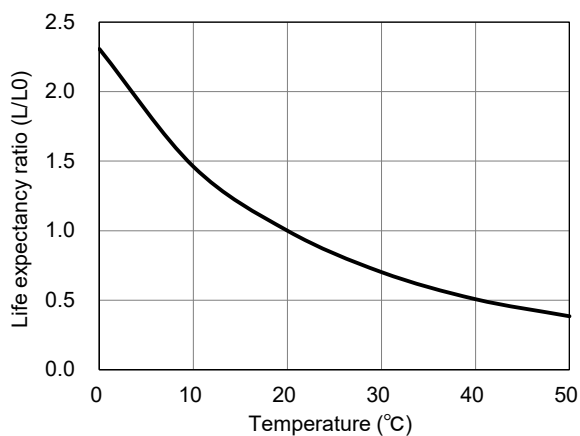

Fig. 7b - Relationship of life expectancy vs. temperature (L₀ = life at 20°C)
Figure 7b shows the relationship between life expectancy and ambient temperature. The Y-axis indicates the ratio of life expectancy at a given temperature (L) compared to life expectancy at 20°C (L₀). A correlation exists between the sensor's life time and its storage temperature—the life time becomes shorter as the storage temperature increases.